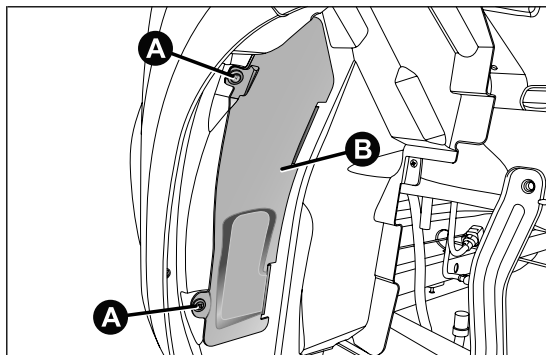

fig. 125
- ☐ adjust the screws A fig. 125 and remove the flap B;